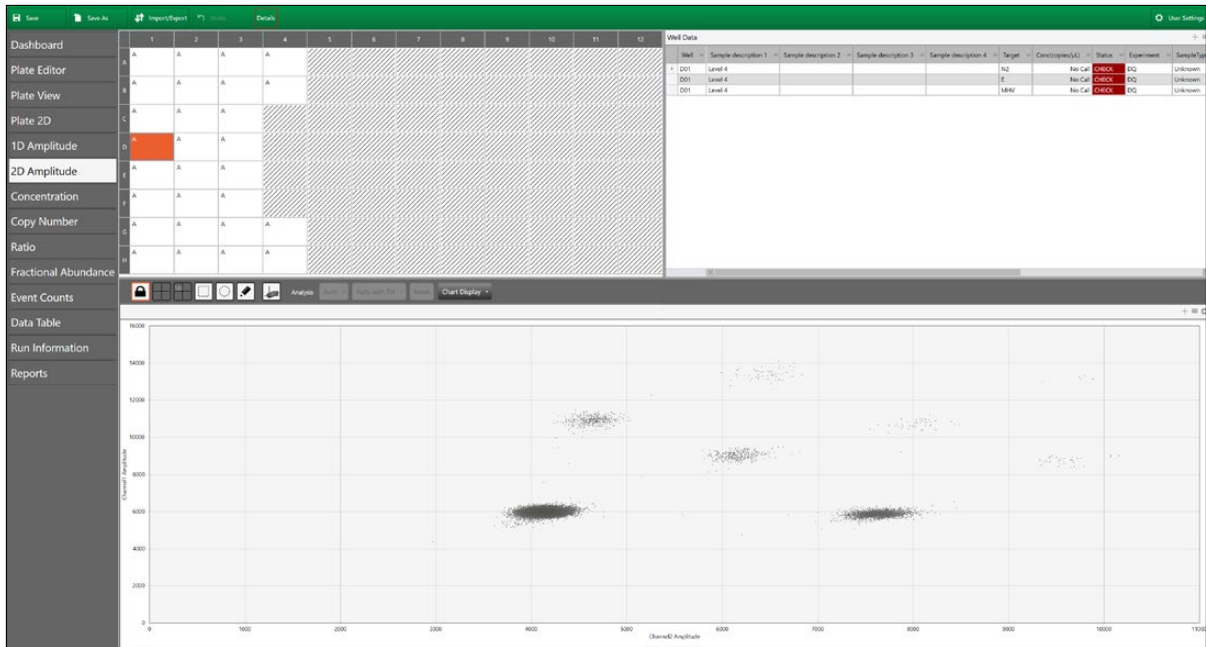

Fig. 11. 2D plot containing all possible clusters.
- b. The 2D plot graph axes (minimum and maximum) can be adjusted to remove the peripheral white spaces (Figure 11).